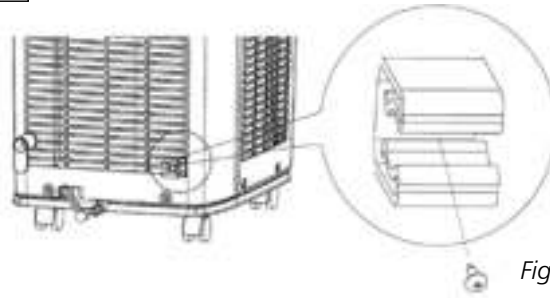

Fig. 21
- 3** Fit the hose holder G (see fig. 1) to the rear of the air conditioner (see fig. 21).